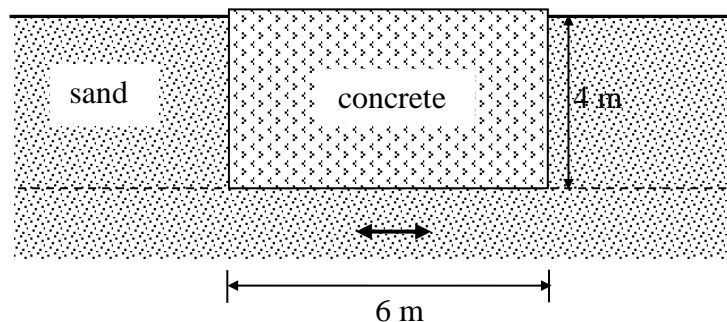

Fig. 6
- (c) A crane structure is to be supported on a foundation block with dimensions of 6 m × 6 m × 4 m shown in Fig. 6, and is to be embedded to a depth of 4 m. This foundation is to be located in sandy soil that has a dry unit weight of 15 kN m-3 and a void ratio of 0.67. The expected direction of ground shaking is shown in Fig. 6. The shear wave velocity in this soil is measured as 150 m s-1 and the Poisson's ratio of the soil may be taken as 0.3. Assuming that the block foundation is rigid, determine the horizontal, vertical and rotational stiffness due to the soil. [30%]